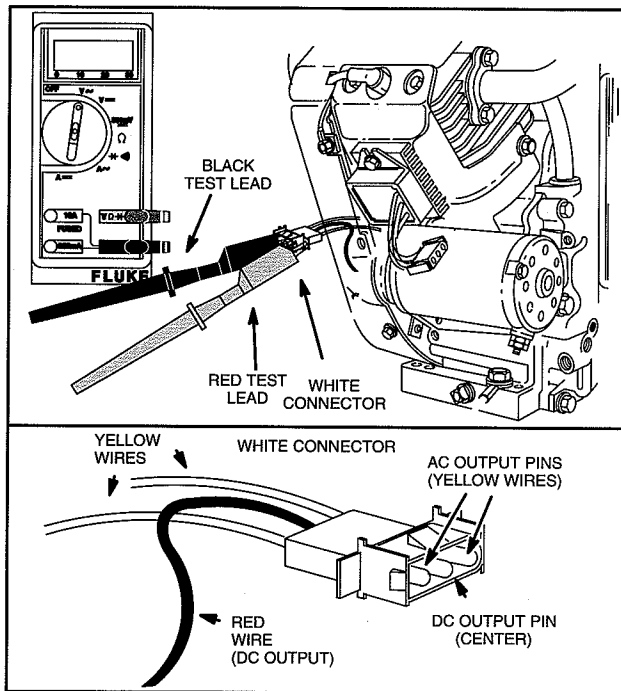

Fig. 26 – Testing AC Output
4. Attach RED and BLACK test lead probes to AC output terminals in white connector (yellow wires), as shown in Fig. 26. (Meter test clip leads may be attached to either AC output terminal.)
4. Attach RED test lead probe to DC output terminal in white connector (red wire), Fig. 26.